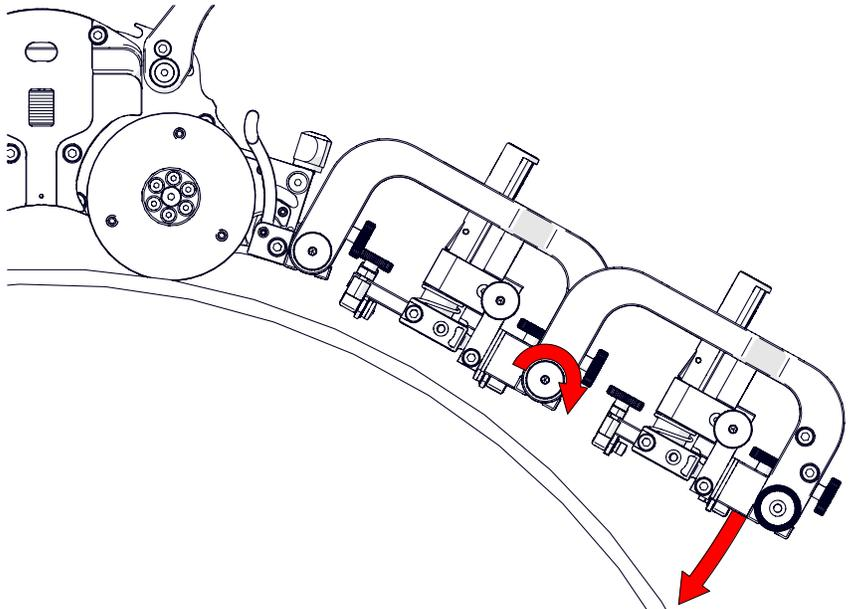
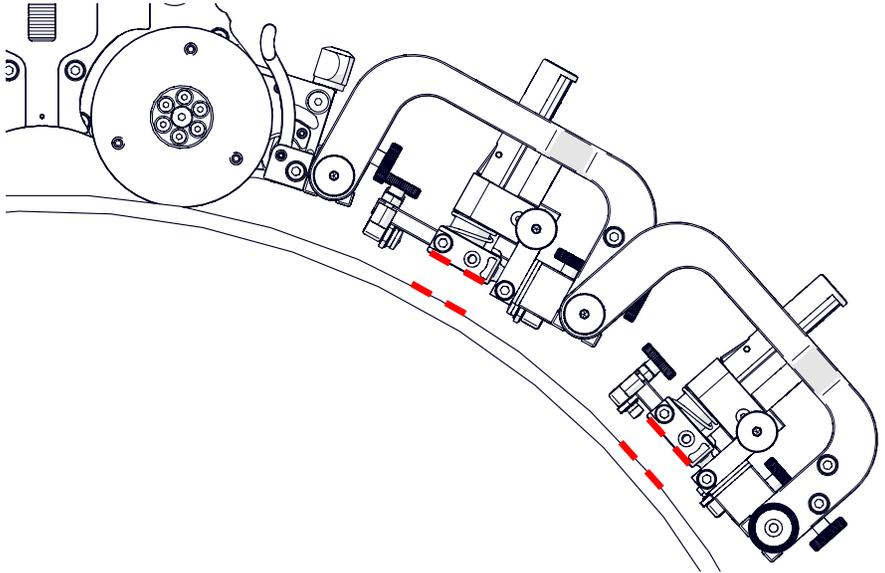

Fig. 181 - Set front rotational adjustment knob
Fig. 182 - Align probes with the scan surface tangent
5. Loosen the rear rotational adjustment knob to lower the weld scan frame towards the inspection surface (Fig. 181).
6. Loosen the front rotational adjustment knob (Fig. 181) to align the TOFD probe holders parallel with the scan surface (Fig. 182).